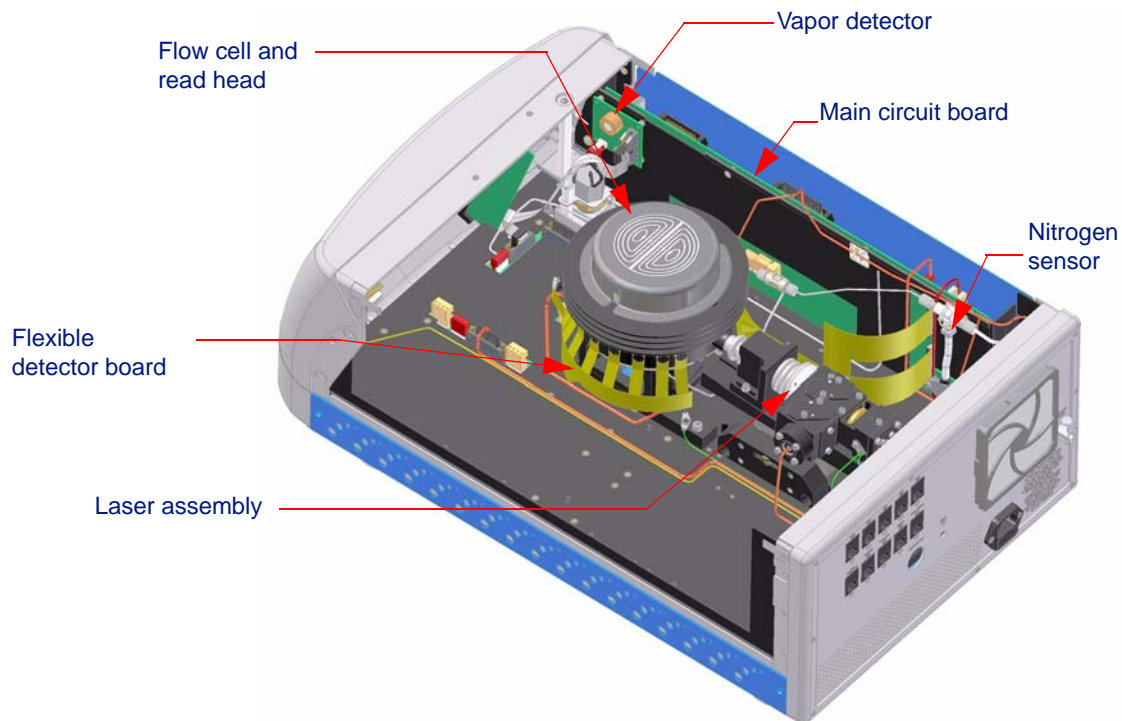

Figure 3-5: The HELEOS uncovered
4. Slide the cover up to remove it. You can now see the HELEOS components, as shown in Figure 3-5.